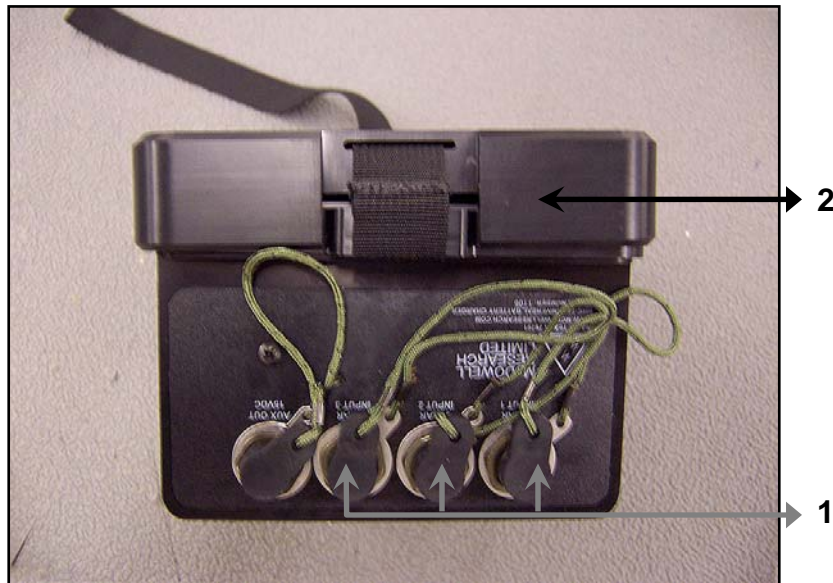

Figure 1 MRC-143 Solar Input Connectors
- First secure the proper power cable to the power source and then to an input connector(s). There are 3 solar input connectors (1) and 1 AC/DC input connector (3). **See Figure 1 and 2.**
- Remove the delrin lid (2) by unsnapping the plastic latch (4). **See Figure 1 and 2.**